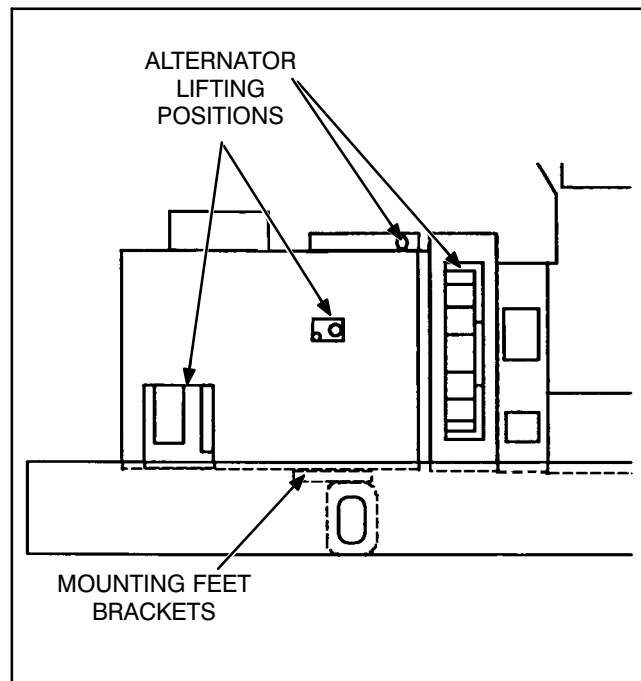

FIGURE 6-10. HC6 ALTERNATOR LIFTING POSITIONS
18. Attach cables of lifting device to alternator lifting points (Figures 6-10 or 6-11).
29. Attach cables of lifting device to alternator lifting points (Figures 6-10 or 6-11).